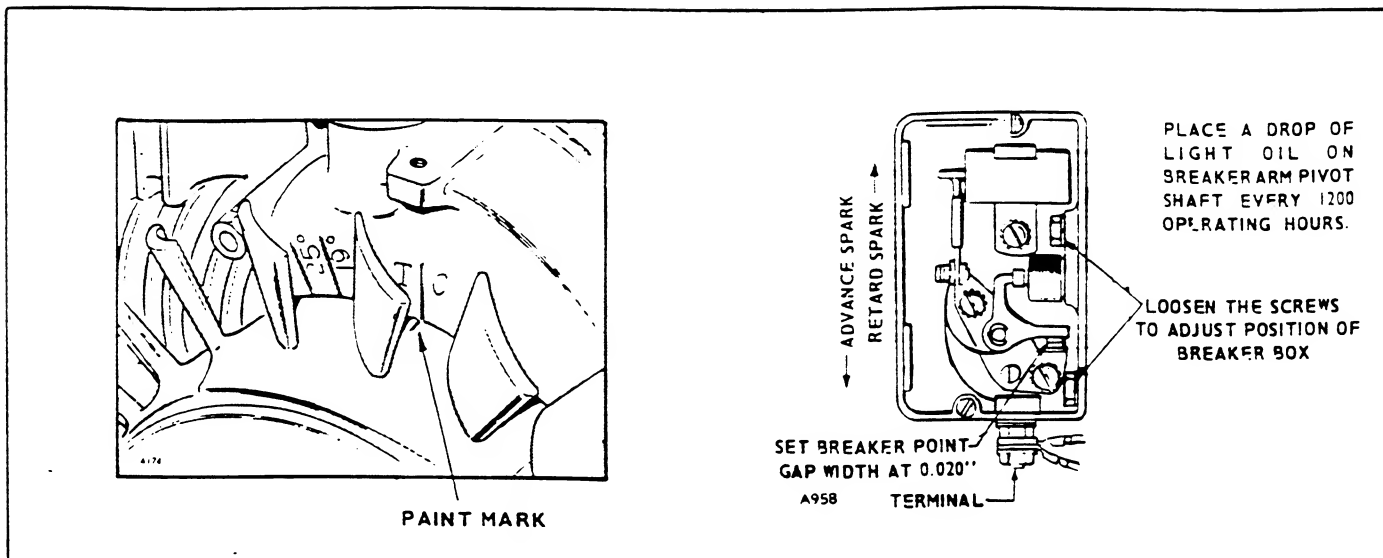

FIG. 7
Ignition timing is the same for manual-start type plants with magneto ignition and remote-start type plants with 12-volt battery ignition (Fig. 7).
2. Crank the engine over slowly by hand in the direction of crankshaft rotation until the painted witness mark on the flywheel and the "TC" mark on the gear cover are exactly in line ON THE COMPRESSION STROKE (Fig. 7).
3. Ignition breaker points (Fig. 7 & 8) must be correctly gapped. Crank engine to fully open breaker points (1/4 turn after top center). Loosen and move stationary contact to correct the gap at full separation. Tighten contact and check gap.